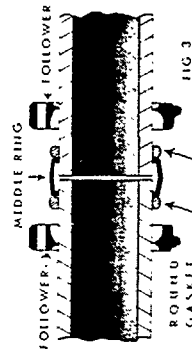

FIG 3
3. The gasket which was rolled back to permit placing the middle ring on the pipe end should now be rolled up against the middle ring. Be sure that the gaskets whether square or round seat snugly against the middle ring (see Figures 3 and 4 below).